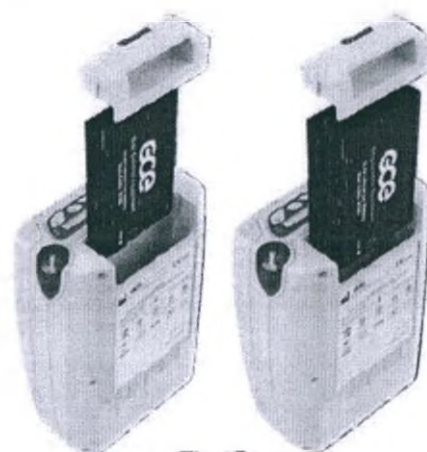

Fig. 2
- Prior to using the device for the first time, install one or two batteries as shown in Fig. 2. Each battery will latch when fully seated.